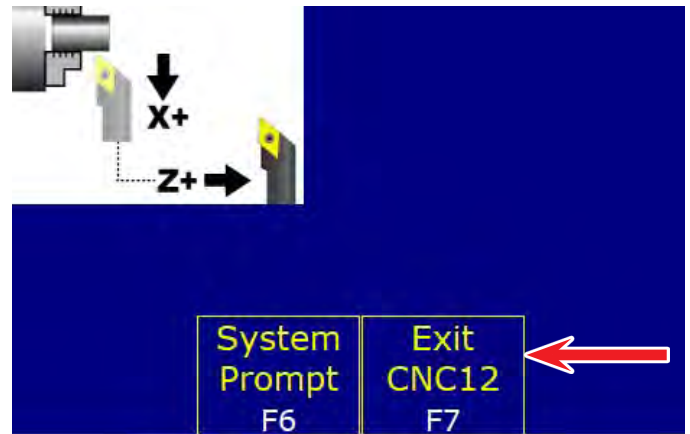

FIGURE 19
23. Close the Wizard. Turn the power off on the controller. Then click on Exit CNC12 F7 (see Figure 19).